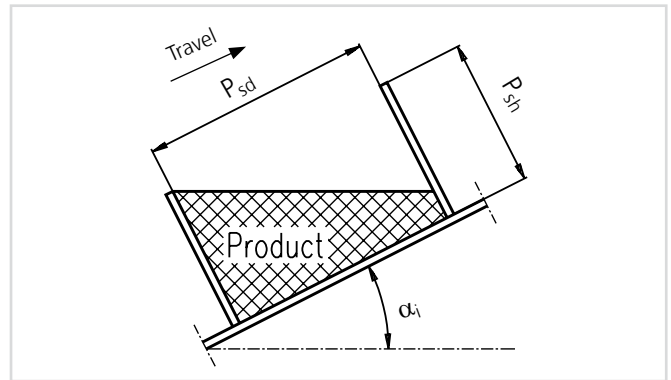

Figure 5-6
2. The distance between the product supports will allow the product to lie as shown on figure 5-6.
If $\text{InvTAN} \left(\frac{P_{sh}}{P_{sd}} \right) > \alpha_i$ - you have situation 2 on figure 5-6